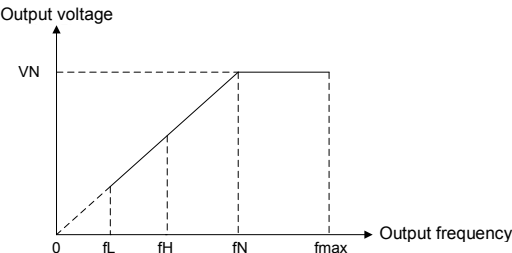

Fig. 5-3
b0-09 upper limit frequency is the user-defined maximum allowable run frequency and represented by  $f_H$  in Fig. 5-3.
b0-10 lower limit frequency is user-defined minimum allowable run frequency and marked with  $f_L$  in Fig. 5-3. In Fig. 5-3,  $f_N$  represents rated frequency of motor while  $V_N$  means the rated voltage of motor.
- The rank relation between maximum frequency, upper limit frequency and lower limit frequency is shown as Fig. 5-3.